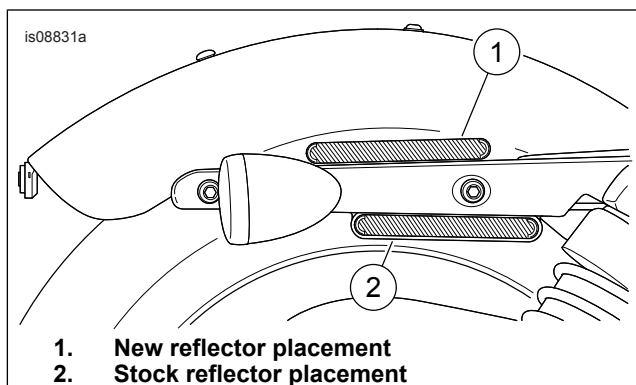

Figure 1. Sportster Reflector Mandate
13. See Figure 1. If stock reflector (2) is located below the strut cover, install new reflector (1) above the strut cover.